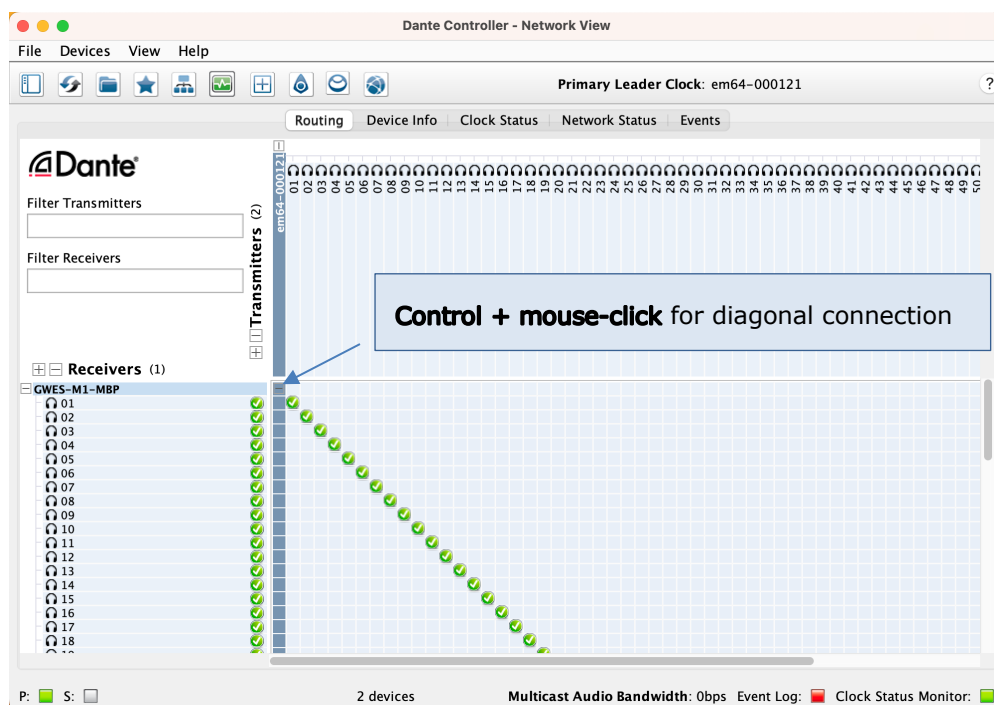

Figure 4: Dante Controller 4.7.1.1 Routing UI screen.
Figure 4 shows the Dante Controller (DC) version 4.7.1.1 UI screen displaying the signal "Routing" matrix screen (Router tab). The em64 array will show up in Dante Controller as a transmitter (since it can only transmit audio) with the name that contains the em64 serial number, (em64-000121 in the figure). If DVS is running, DC shows the name of the PC or Mac (GWES-M1-MBP in Figure 4) in both "transmitter" and "receiver" tabs. For audio to be routed to the DVS application, DC must connect the em64 to the PC/Mac DVS sound card for all 64 channels. The matrix connection in DC should be the identity matrix where microphone 1 is routed to DVS input 1 and microphone 2 to DVS input 2, and so on, for all 64 microphone channels. This can be accomplished quickly with one mouse press by hovering the mouse over the "-" (minus) icon in the expanded PC/Mac DVS receiver tab and holding the "Control" key down with a mouse click. Note that the channels have been expanded to show all output channels for the em64 and all DVS receiver channels on the Mac.